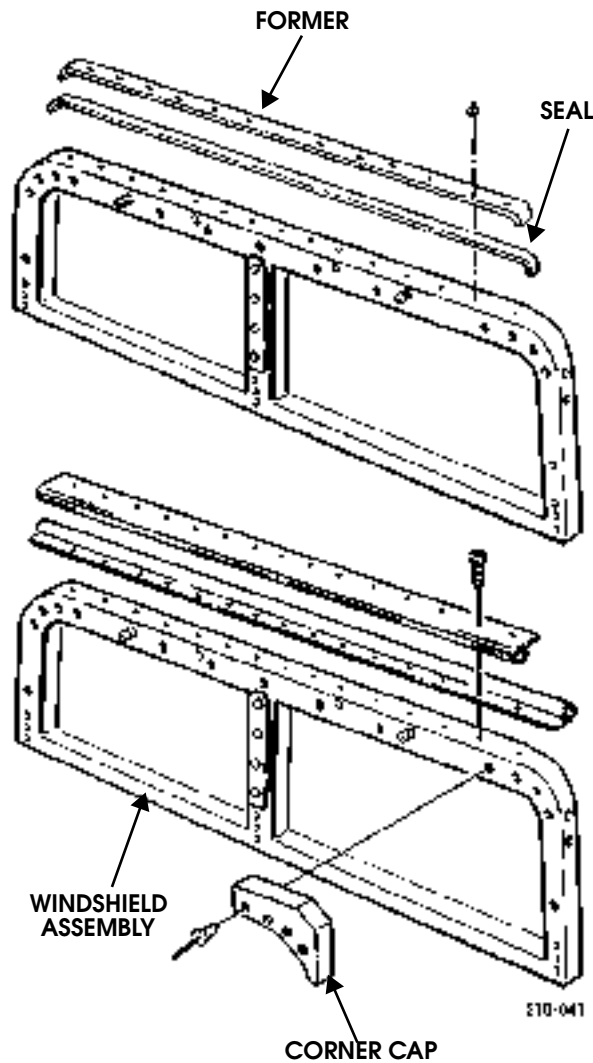

Figure 10-105: Windshield Assembly Seal Replacement
1. Remove eleven rivets, former, and seal from windshield assembly (Figure 10-105).
3. Remove thirteen rivets, former, and seal from windshield assembly (Figure 10-105).
1. Secure seal and former to windshield assembly with eleven rivets (Figure 10-105).
3. Secure seal and former to windshield assembly and secure with thirteen rivets (Figure 10-105).